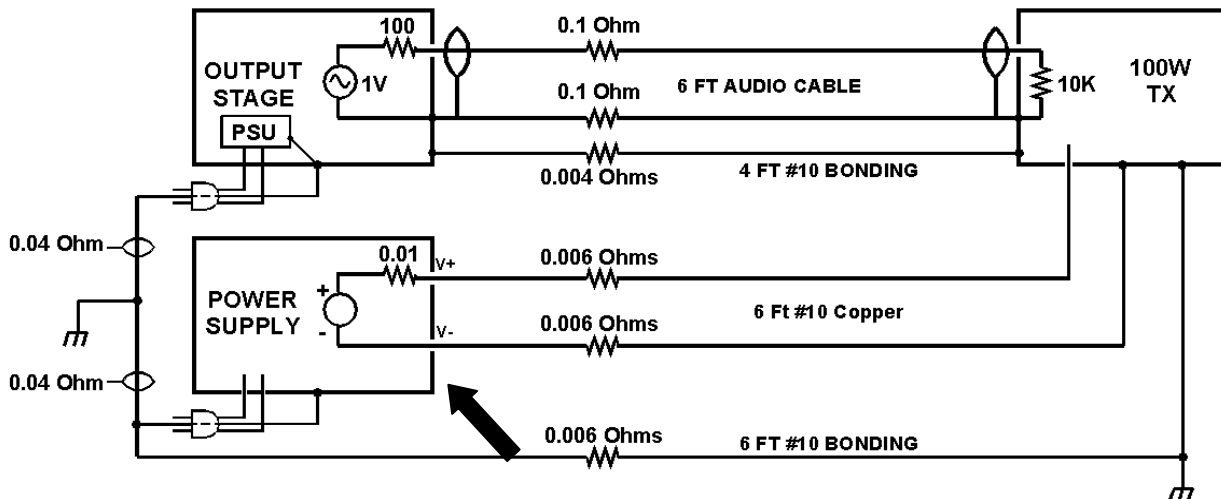

Fig 4 – Ham Transceiver with Typical 14VDC Supply with V- not bonded to chassis
**Ham Station with V- Not Bonded at Power Supply** Fig 4 shows the same installation with V- not bonded to the power supply chassis. Because V- is not tied to the chassis, no noise current is coupled to ground wiring or to unbalanced audio.